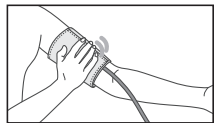

Fig.9
3. Fix the cuff so that it fits tightly to the arm, but see that it is not overtight (Fig. 9). Too tight or too free placement of the cuff may give inaccurate readings.